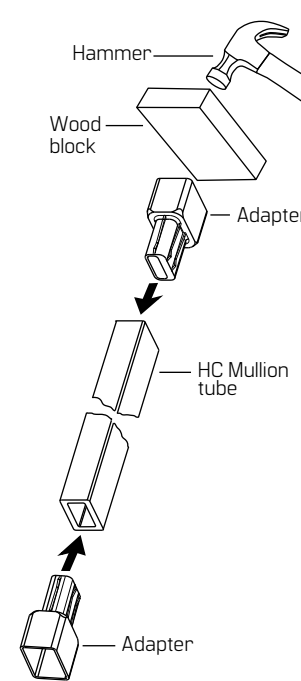

Figure 10 Driving in adapters for HC units
- Insert an adapter into bottom end of tube and drive it in until flush using a block of wood and a hammer. See **Figure 10**.
DO NOT strike adapter directly with hammer. Damage to product may occur. See **Figure 10**.